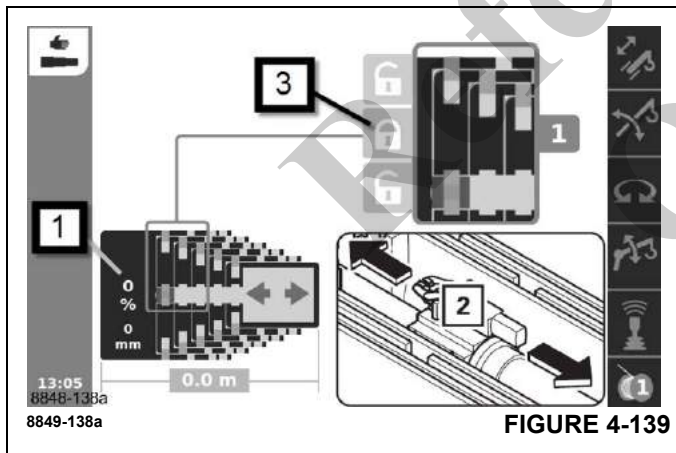

FIGURE 4-139
The telescoping cylinder (2), (Figure 4-139) extends/retracts.
The display (1), (Figure 4-139) shows the currently extended length, e.g. 80%.
Near a locking point, the symbols (3), (Figure 4-139) show: